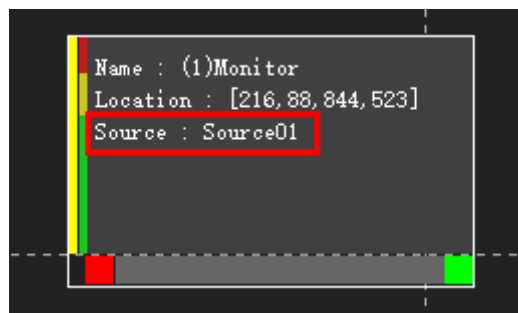

Figure 3.5-58 Signal Source for a Monitor
- **Source:** the signal source is showed in the monitor window followed the key word **Source** in working area, as shown in **Figure 3.5-58**: